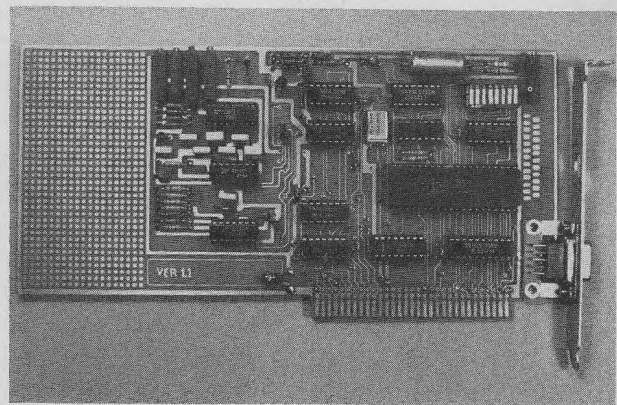

fig. 4. HAPN adapter board plugs into IBM PC slot.
- Software and assembled and tested board (see **fig. 4**), \$199.